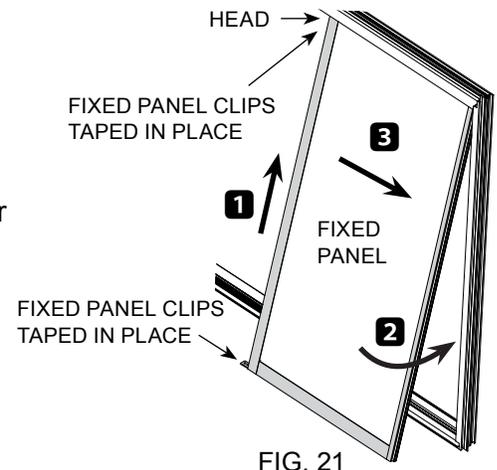

FIG. 21
3. From the exterior, tilt the fixed panel and insert into the top track. Swing bottom of panel in and set it in place on top of the sill riser. (FIG. 21)